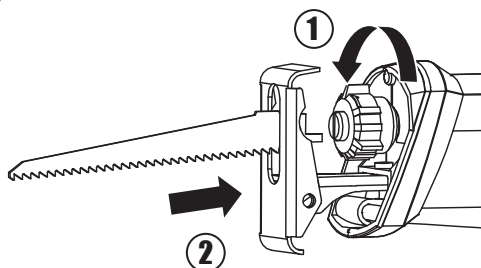

Fig. A1
1. REPLACING / INSERTING THE SAW BLADE (See Fig. A1,A2)
INSERTING A SAW BLADE (SEE FIG. A1)